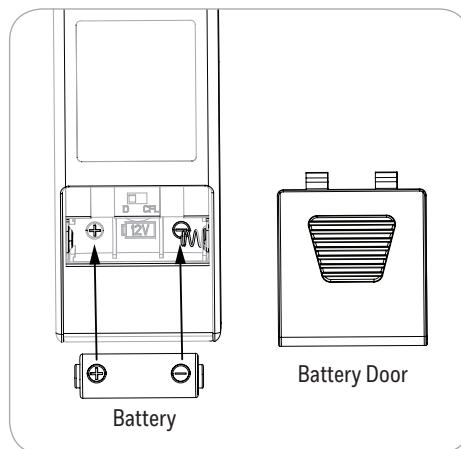

Figure 5.8
8. Remove the battery cover from the back of the remote transmitter and insert the 12-volt battery, noting polarity -- positive (+) to positive (+) and negative (-) to negative (-). Replace the battery cover. If battery is installed correctly, the LED indicator on the front of the remote transmitter should illuminate when any button is pushed (Figure 5.8).